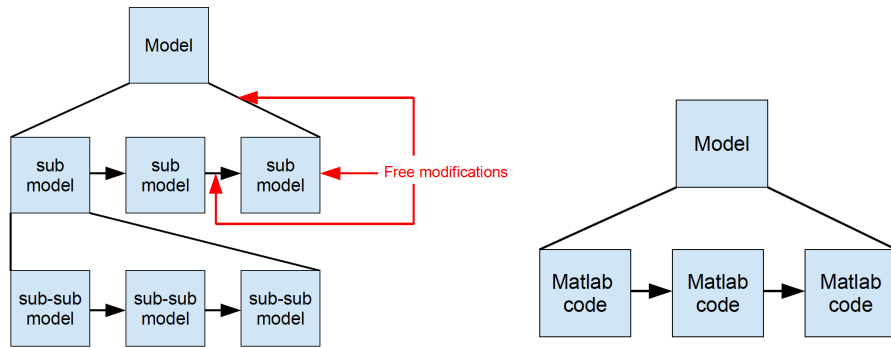

Figure 3: Easy scalable and readable (on the left); hard scalable and readable (on the right) models.
**Remark:** A big attention has been given building the 'Controls', 'Rotors', 'Quadrotor', 'Sensors' blocks, using only Simulink. In this way, it is easier to take and/or modify each single model component without compromise the other code. In opposite to use both Matlab and Simulink which allows to build the model easier and faster, but hard scalable (see Fig. 3).